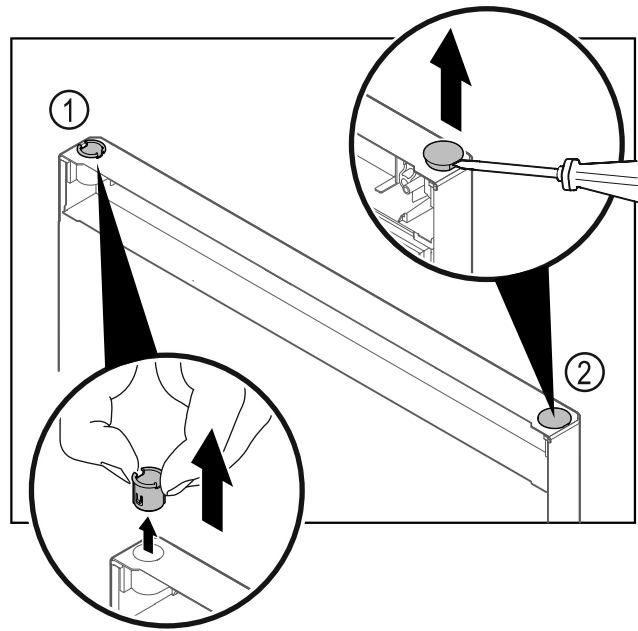

Fig. 7
- Pull out the hinge bushing Fig. 7 (1) with your fingers.
- Carefully lift the cover plug Fig. 7 (2) with a slotted screwdriver and pull it out.